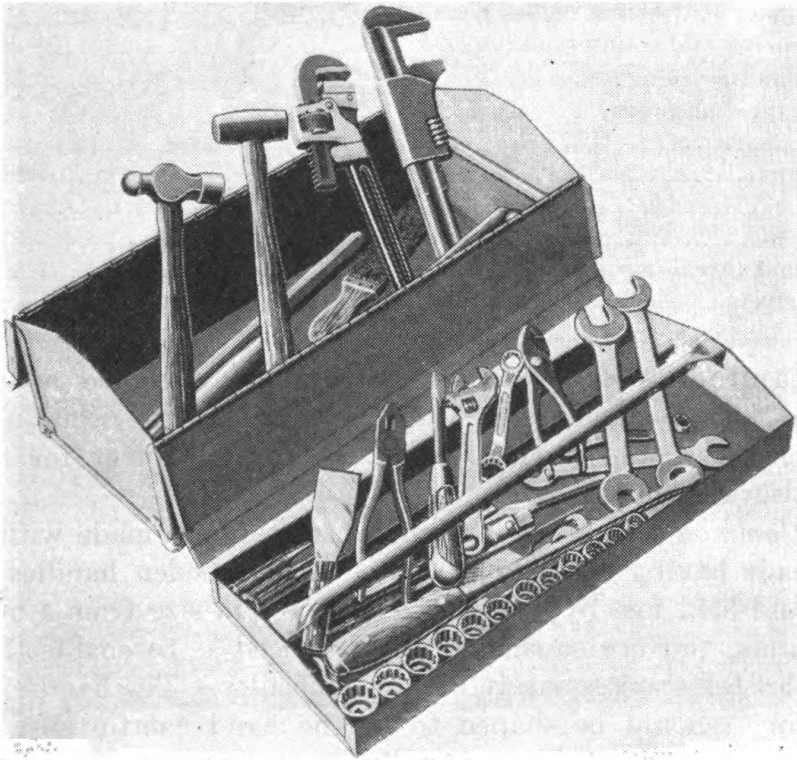

FIGURE 1.—Mechanic's tool box with tray removed.
1. Employment.—*a. General.*—(1) Tools are the machinist's and mechanic's best friend. Without them a mechanic is as helpless as he would be without his eyes. In fact, he would be more helpless, for a blind mechanic skilled in the use of good tools can do more than the most expert mechanic without tools. Regardless of the type of job to be done, a mechanic must have, choose, and use the correct tools in order to do the work quickly, properly, and accurately. Without the proper tools and the knowledge of how to use them, a mechanic wastes time, cuts efficiency, and may injure himself. This text explains the specific purposes, correct use, and proper care of the common tools of the motor vehicle mechanic.
(2) Mechanics' and machinists' tools are carefully made and demand particular care if they are to work and last as the manufacturer intended. No mechanic can do satisfactory work with poorly kept tools. The mechanic should have his own tool box and keep his tools in it when not using them. Each tool should be given a place and kept there. If possible, the box should be locked to prevent theft. A common type of tool box is shown in figure 1. Tools are cleaned before they are put away. Those which may not be used again for some time are oiled to prevent rust. When working, a mechanic keeps his tools within easy reach and where they cannot fall on the floor. Tools are never placed on the finished parts of a machine, such